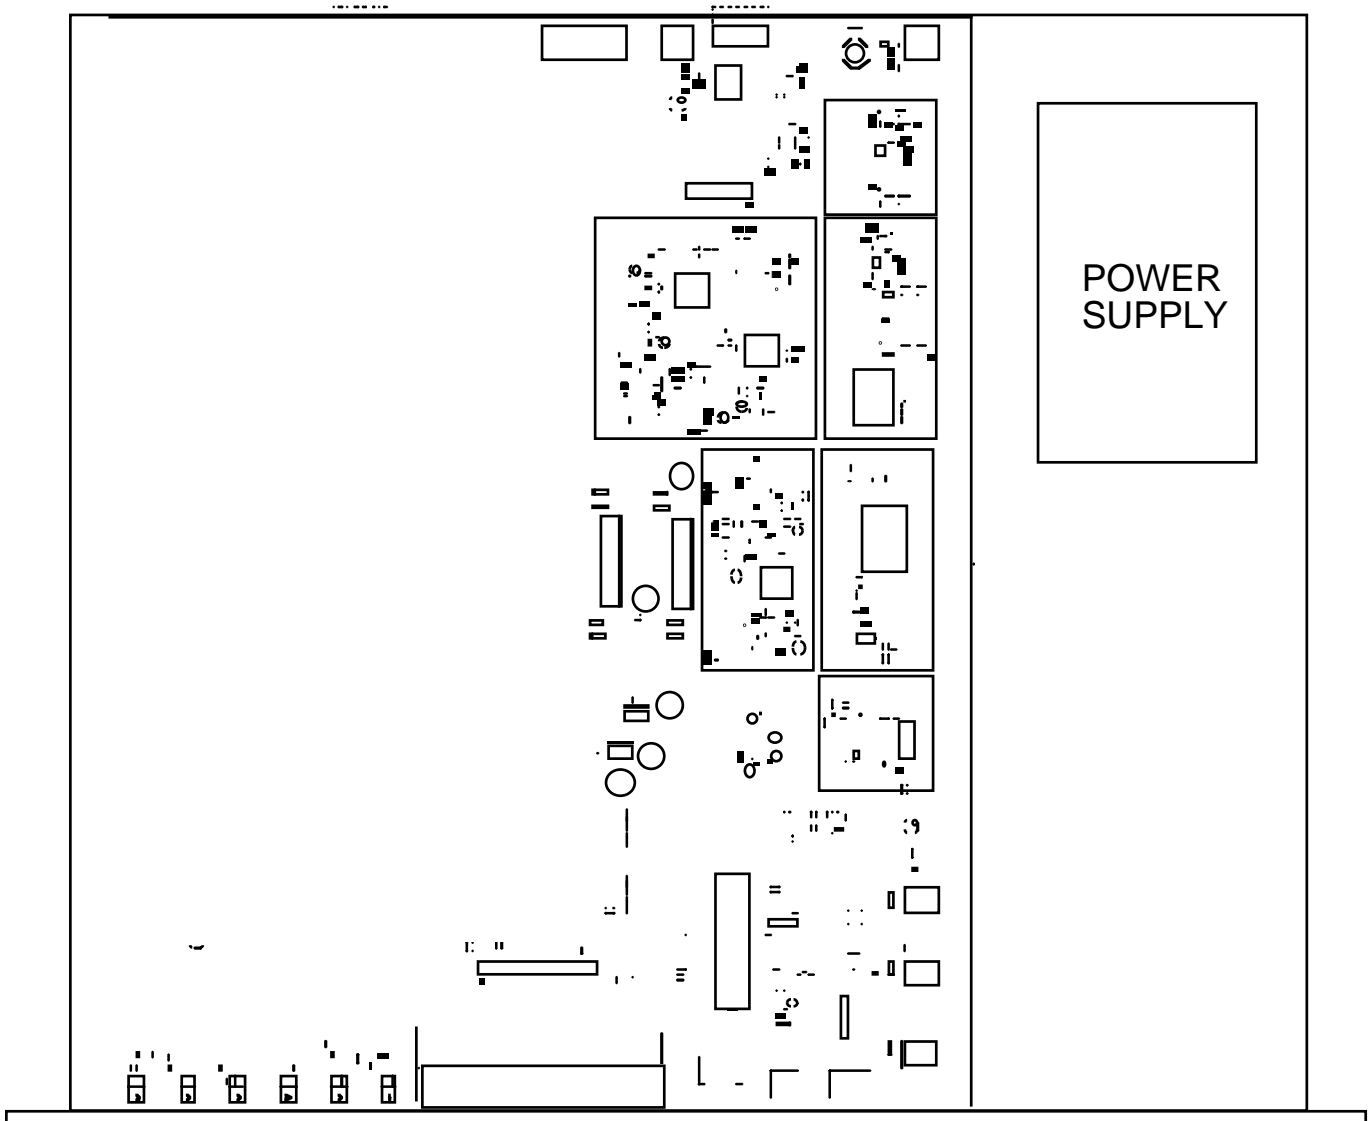

FIGURE 2.1 2016-03A Mechanical Assembly
2.1 Mechanical - The 2016-03A consists of one RF/Controller PCB housed in a 1 RU (1 3/4 inch high) by 16 inch deep chassis. A switching, ± 12 , +24, +5 VDC power supply provides power for the assemblies. The 2016-03A can be secured to a rack using the 4 holes on the front panel. Figure 2.1 shows how the 2016-03A is assembled.
7. Option -L only - To insert LNB +24 VDC on the RF center pin install 0.5A fast blo fuse in F1 and check that DS8 lights yellow (Figure 2.1)